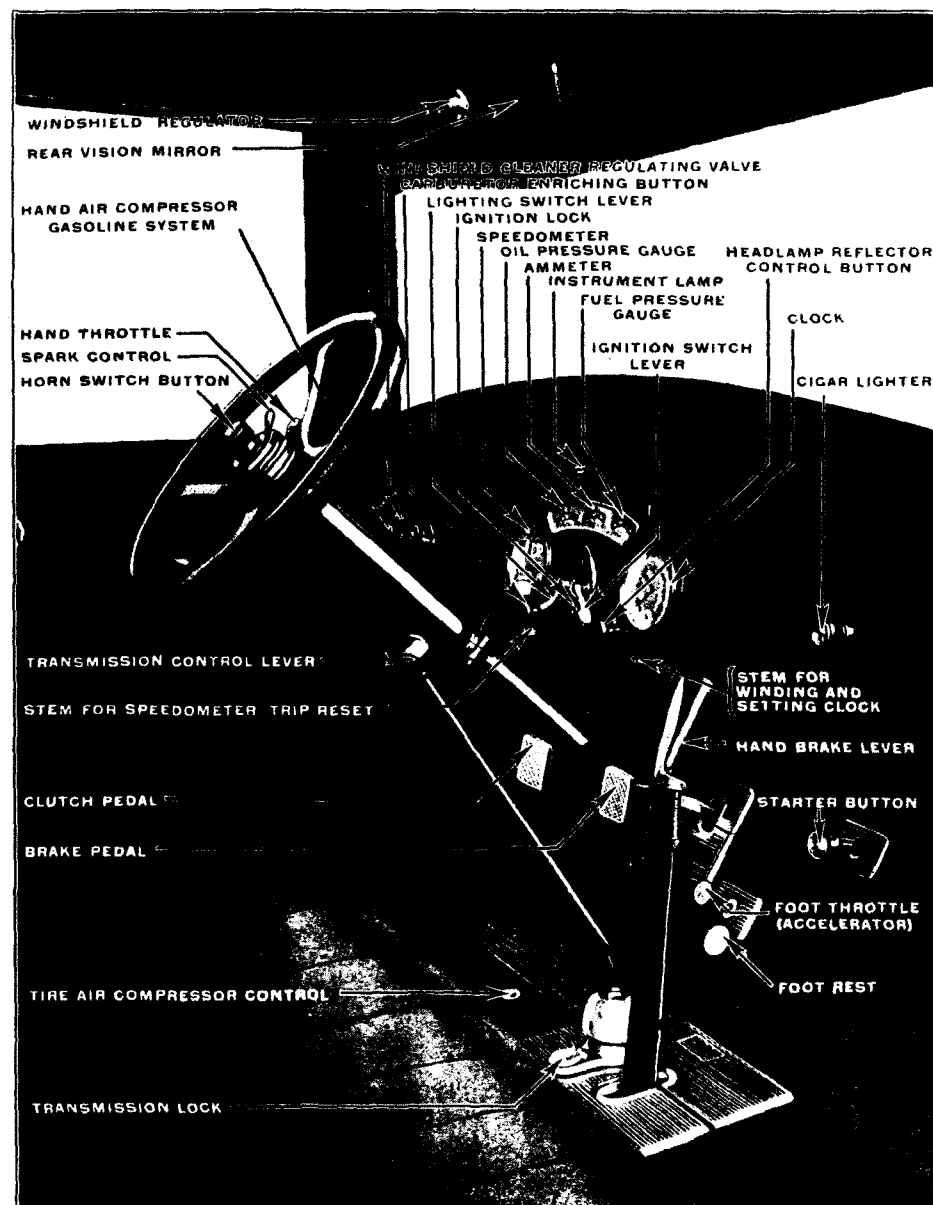

Fig. 1. Instruments, Control Levers and Pedals.
1. First make certain that the transmission control lever is in the neutral position and that the hand brake is applied, (see Figure 1.)
Lubricating oil is fed under pressure to the main and connecting rod bearings of the engine (see under "Engine Lubrication," page 32.) The pressure of the oil is indicated by the pressure gauge on the instrument board. (See Fig. 1.)
Caution: Do not attempt to shift from neutral to any gear, or from one gear to any other without first disengaging the main engine clutch by pushing and holding down the clutch pedal (see Figure 1.)